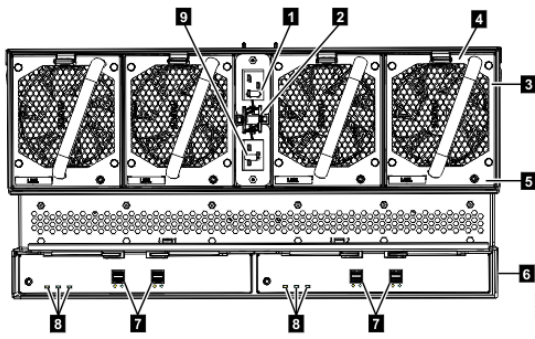

Figure 141. Features on the rear of the 5U expansion enclosure
3. Verify that the expansion enclosure and its components are operating as expected. On the back of the expansion enclosure, all four fans and the expansion canister indicators (3 and 8 in Figure 141 on page 119) become active when the power is connected.